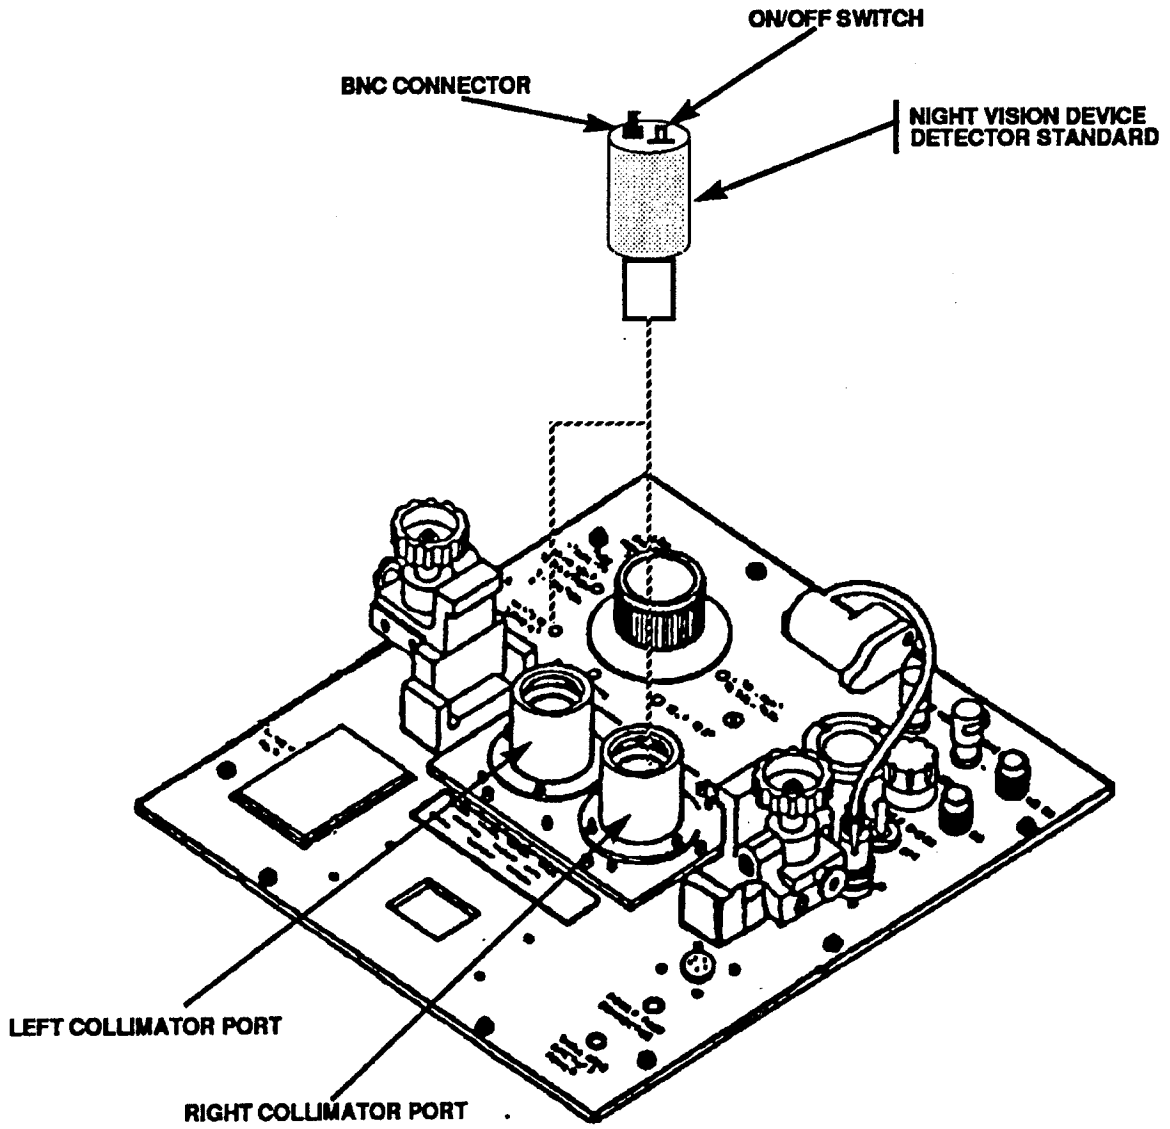
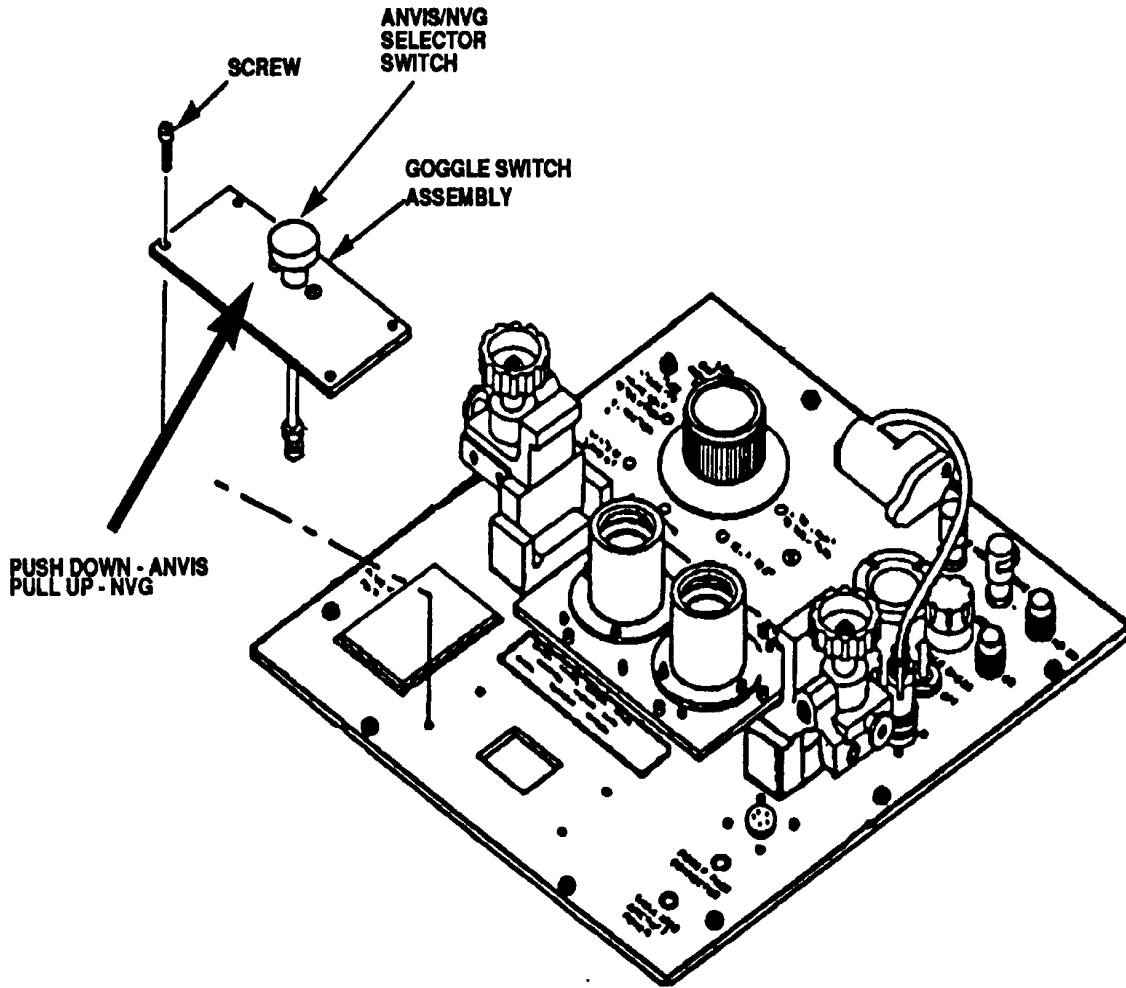
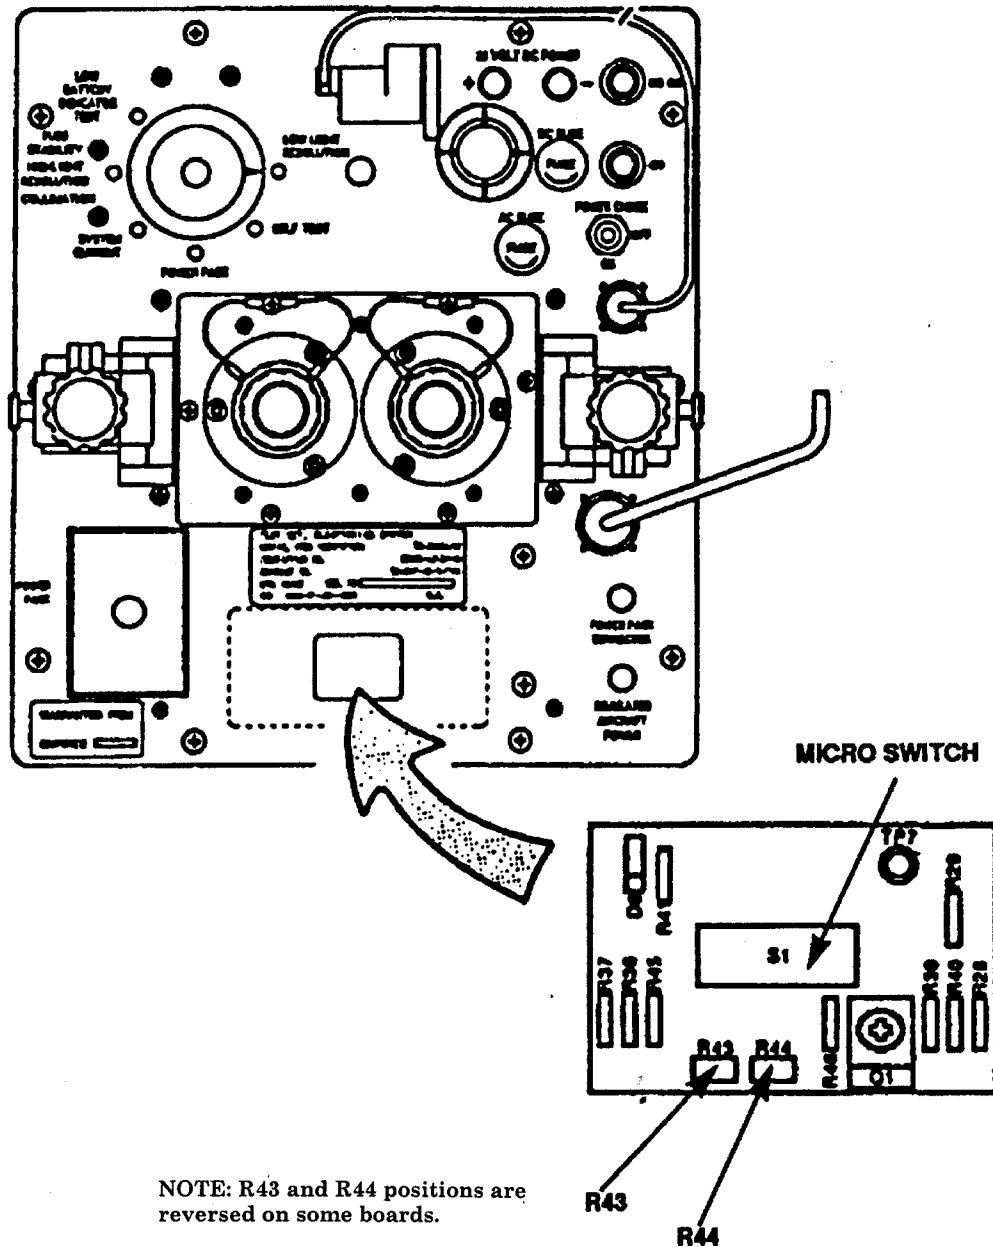

Figure 1. TS-3895A/UV control panel.
Figure 2. TS-3895A/UV control panel.
Figure 3. TS-3895A/UV - adjustment locations.
(1) Connect multimeter **Input HI** and **LO** to night vision device detector standard BNC CONNECTOR (fig. 1).
(2) Install night vision device detector standard into TI RIGHT COLLIMATOR PORT (fig. 1). Install lens cap/target over TI LEFT COLLIMATOR PORT (fig. 1).
(3) Turn night vision device detector standard power ON/OFF SWITCH (fig. 1) to ON and allow night vision detector standard to warm up 5 minute.
(4) Set TI **ON-OFF-POWER CHECK** switch to **ON** and rotate **FUNCTION** switch to **LOW LIGHT LEVEL RESOLUTION**.
(5) Pull TI ANVIS/NVG SELECTOR SWITCH (fig. 2) to NVG (up) position. If multimeter does not indicate between 3.04 and 5.90 mV dc, perform **b(1)**, (2), and (4) below.
(6) Push TI ANVIS/NVG SELECTOR SWITCH (fig. 2) to ANVIS (down) position. If multimeter does not indicate between 0.82 and 1.60 mV dc, perform **b**(1), (3), and (4) below.
(7) Remove lens cap/target from TI LEFT COLLIMATOR PORT (fig. 1) and remove night vision device detector standard from RIGHT COLLIMATOR PORT (fig. 1) and install in TI LEFT COLLIMATOR PORT (fig. 1). Install lens cap/target over TI RIGHT COLLIMATOR PORT (fig. 1).
(8) Repeat (5) and (6) above.
(9) Rotate TI **FUNCTION** switch to **SELF TEST**. **GO** (green) light will illuminate.
(10) Rotate TI **FUNCTION** switch to **HIGHLIGHT LEVEL RESOLUTION**.
(11) Pull TI ANVIS/NVG SELECTOR SWITCH (fig. 2) to NVG (up) position. Multimeter will indicate between 0.570 and 1.710 V dc.
(12) Push TI ANVIS/NVG SELECTOR SWITCH (fig. 2) to ANVIS (down) position. Multimeter will indicate between 0.155 and 0.464 V dc.
(13) Remove lens cap/target from TI RIGHT COLLIMATOR PORT (fig. 1) and remove night vision device detector standard from LEFT COLLIMATOR PORT (fig. 1) and install in TI RIGHT COLLIMATOR PORT (fig. 1). Install lens cap/target over LEFT COLLIMATOR PORT (fig. 1).
(14) Repeat (11) and (12) above.
(1) Remove GOGGLE SWITCH ASSEMBLY (fig. 2) using tamper-proof bit.
Temporarily install GOGGLE SWITCH ASSEMBLY (fig. 2) after making adjustment.
(2) Adjust R43 (fig. 3) for a 4.47 mV dc multimeter indication (R).
(3) Press S1 MICRO SWITCH (fig. 3) and adjust R44 (fig. 3) for a 1.21 mV dc multimeter indication (R). Temporarily install GOGGLE SWITCH ASSEMBLY (fig. 2) with ANVIS/NVG SELECTOR SWITCH (fig. 2) in the down position.
(4) Install GOGGLE SWITCH ASSEMBLY (fig. 2) using tamper proof bit.